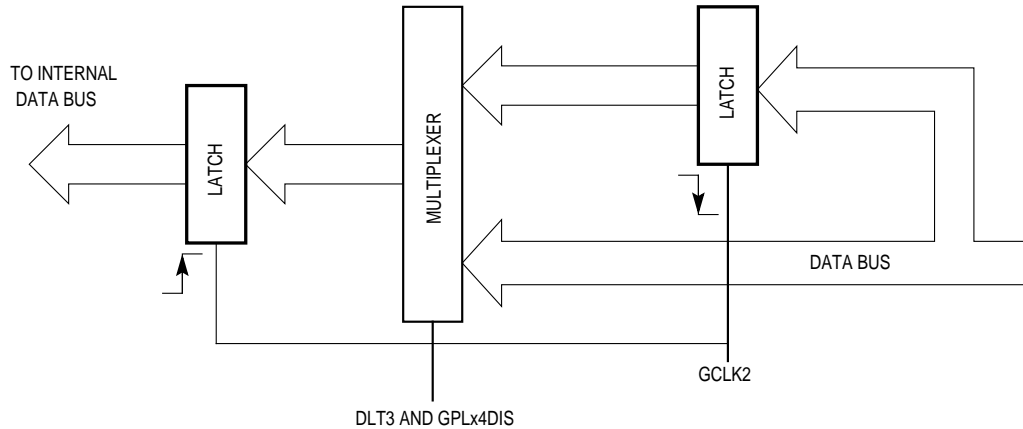

Figure 15-32. UPM Read Access Data Sampling
**15.5.4.2.8 Transfer Acknowledge and Data Sample Control.** During a memory access, the UTA bit of the RAM word controls the state of the  $\overline{TA}$  signal sampled by the bus master. The  $\overline{TA}$  signal is driven on the rising edge of GCLK2. When a read access is handled by the UPM and the UTA bit is 0, the value of the DLT3 bit in the same RAM word indicates when the data input is sampled by the bus master, assuming that the GPLx4DIS bit is set in the MxMR. Figure 15-32 illustrates the data sampling that is controlled by the UPM.